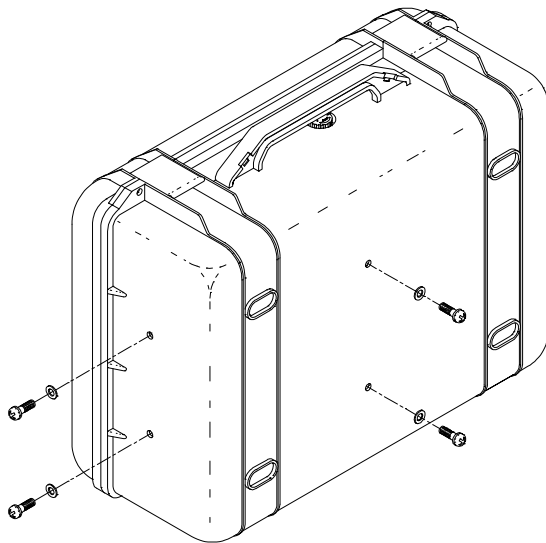

Figure 6-1. Removing BARS Panel Assembly Retaining Screws and Washers
- (1) Remove BARS panel assembly from carrying case in accordance with the following procedure. If panel assembly is already removed for maintenance, perform step (c) only.
- (a) Using #2 Phillips screwdriver, remove the four retaining screws and washers shown in Figure 6-1.
- (1) Ensure BARS is depressurized and disconnected from external HP air supply.
- (2) Using #2 Phillips screwdriver, remove four retaining screws and washers from BARS panel assembly (see Figure 6-1), and remove assembly from carrying case. Place panel assembly facedown on clean worktable.
- (3) Using cleaning procedure and materials specified in paragraph 4.7.2, clean area around gauge(s) and tubing.
- (3) Using cleaning procedure and materials specified in paragraph 4.7.2, clean area around regulator and tubing.